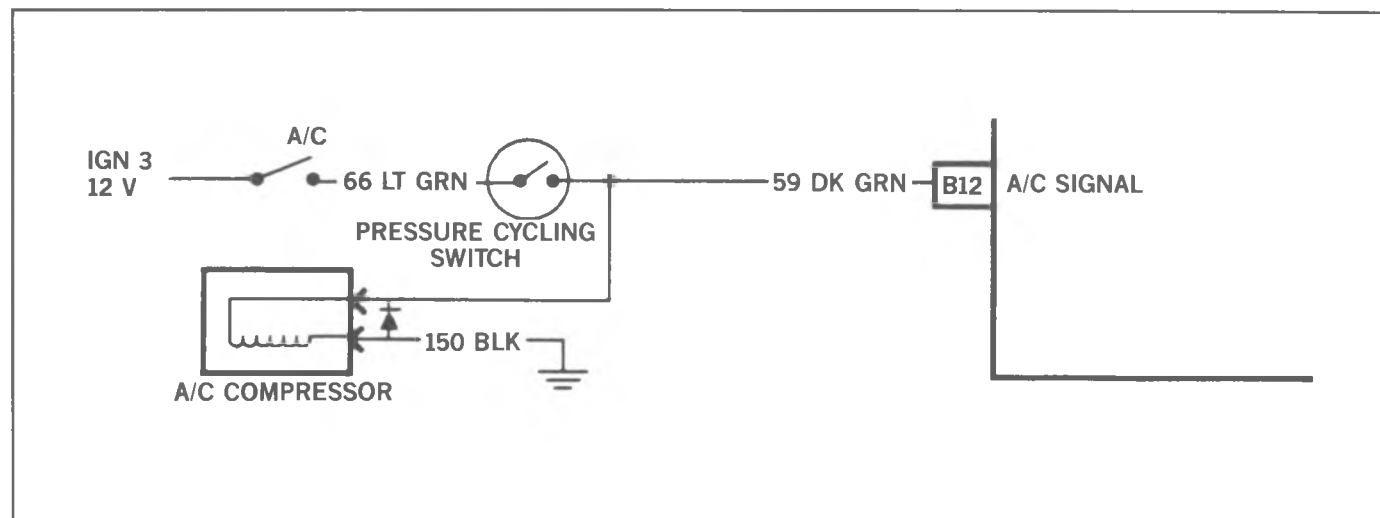

Figure 20. A/C Switch Schematic Diagram
A/C Request is used by the PCM/TCM as a discreet input regarding A/C pressure Cycling switch status (Figure 20). When the Pressure cycling Switch closes, a voltage signal is sent from the cycling switch to the A/C compressor clutch and the PCM/TCM. This signal is used by the PCM/TCM to adjust transmission line pressure, as well as shift timing for the added engine load provided by the compressor. As the cycling switch opens, the compressor will be cycled off and the PCM/TCM will see a Zero (0) volt signal on the A/C signal line. As the cycling switch closes, the compressor will run and the PCM/TCM will see a 12 volt signal on the A/C signal line.